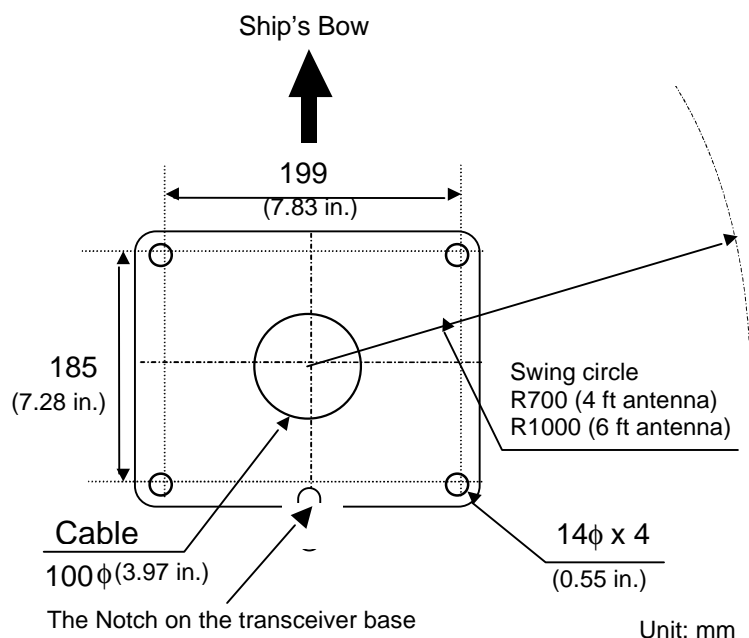

Figure 4.1 Plan view of fixing holes
- (1) Drill four fixing holes of 14 mm diameter on the fitting surface of a radar platform, as shown in Figure 4.1.
- (2) Fit the transceiver unit on the position and fix it using the 12 mm stainless bolts prepared as installation materials.